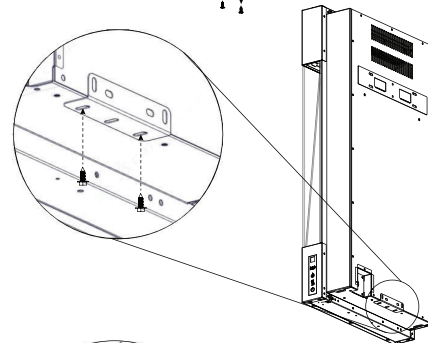

Fig. 2
9. Secure the appliance to the bottom bracket using the screws previously removed in Step 3 (**Fig. 2**).